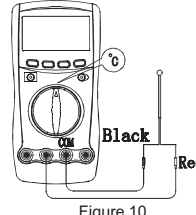

Figure 10
I. Measuring Temperature (UT60C/UT60E, See Figure 10)